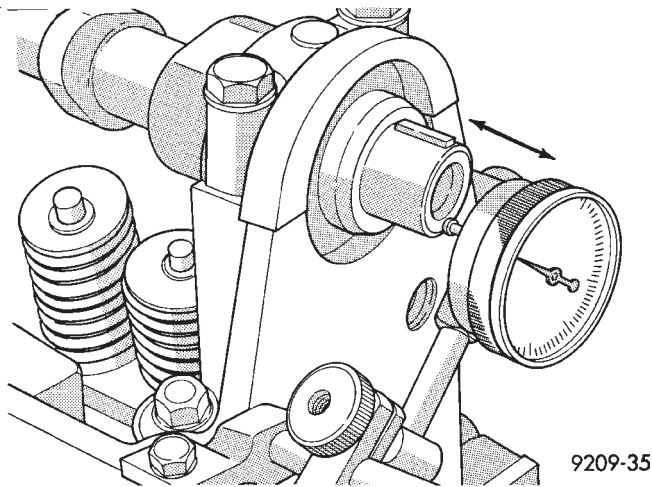

Fig. 9 Camshaft End Play
- (1) Oil camshaft journals and install camshaft without cam followers. Tighten screws to specified torque.
- (2) Using a suitable tool, move camshaft as far rearward as it will go.
- (3) Zero dial indicator (Fig. 9).
- (4) Move camshaft as far forward as it will go.
- (5) End play travel: 0.13 - 0.33mm (0.005 - 0.013 inch).
- (6) Remove bearing caps and camshaft.